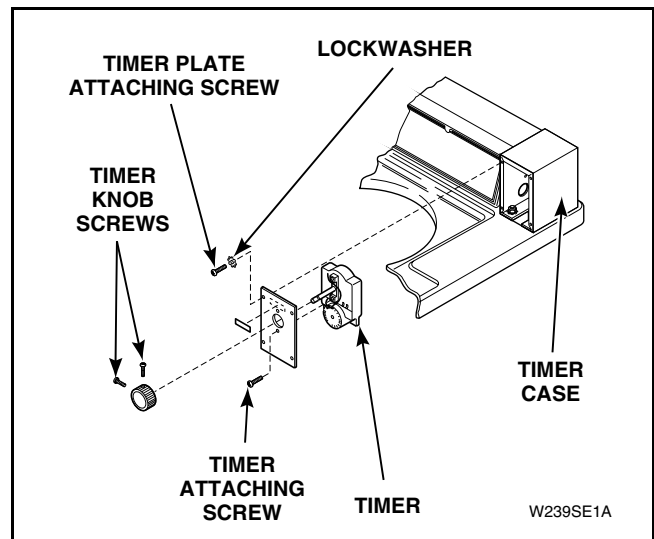

Figure 12
- (1) Loosen two setscrews holding timer knob to timer shaft. Refer to *Figure 12*.
- (2) Remove four screws and lockwashers holding timer and plate to timer case. Refer to *Figure 12*.
- (4) Pull wire harness and blocks through into timer case; then disconnect timer harness from control hood harness at quick disconnect block.
- (5) Remove two screws holding timer to timer plate. Refer to *Figure 12*.
- (6) Disconnect wires from timer.